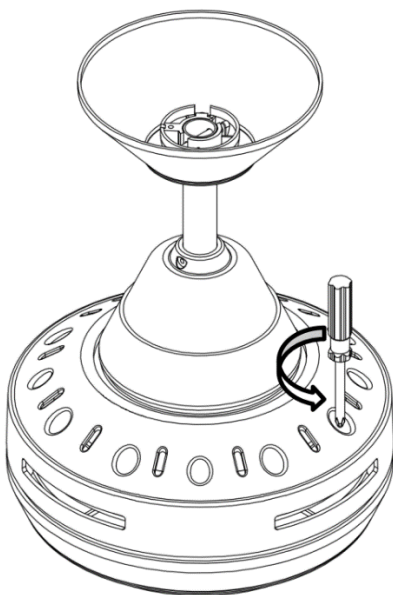

Fig. 5a
1. Remove the 2 blade screws from the fan motor. (Fig. 5a)